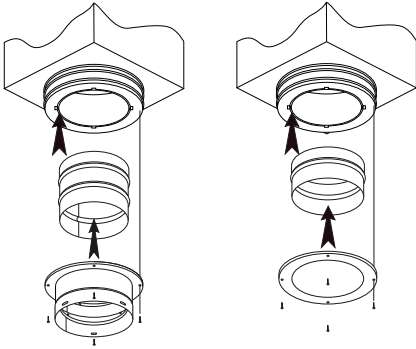

Figure 2
• **Trim Ring Adapters (Figure 2)**